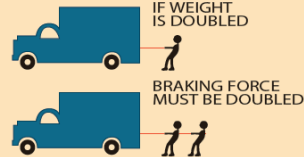

Figure 1
3. Weight (GVW). A heavy vehicle, even though it has better traction, needs more time and distance to stop. When the weight is doubled, the amount of force needed to stop the vehicle is doubled, and it will take about twice as long for that vehicle to stop (Figure 1).